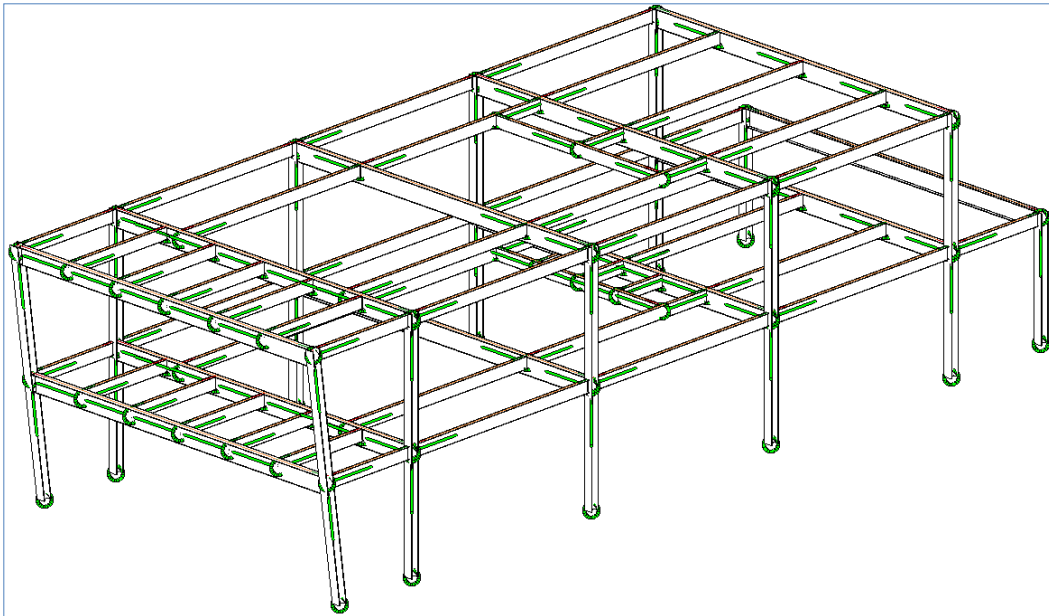

FIGURE 34: CONNECTION ELEMENTS DISPLAYED AS SYMBOLS
4. Notice that only the connection symbols are displayed in the model, as shown in Figure 34. However, the connection elements are still not displayed. This is because to display the connection elements, you need to change the **Detail Level** to **Fine**.